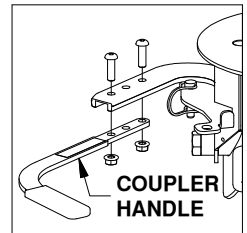

Figure D1: View of coupler handle.
- Install handle.** Locate the two 3/8" x 1-1/4" button head cap screws and the two 3/8" lock nuts provided in a bolt bag. Using the carriage bolts and the nuts, attach the coupler handle to the arm and tighten, see Figure D1.